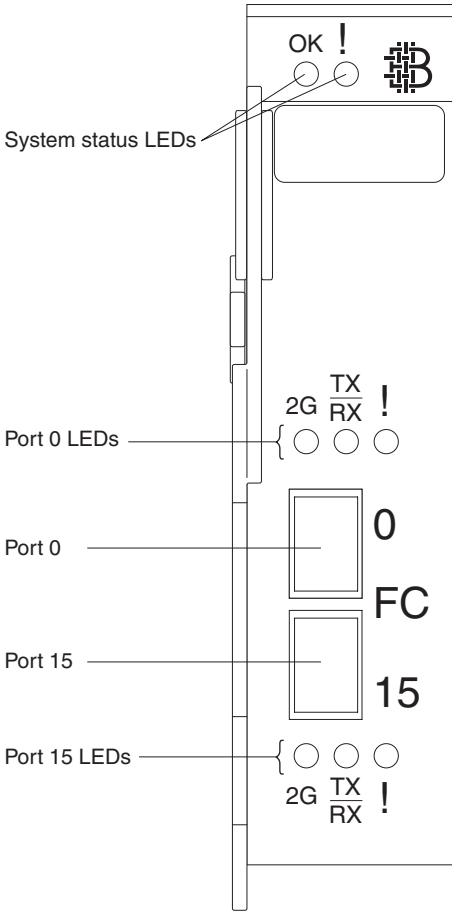

Figure 8. Fibre Channel switch-module information panel
The switch-module information panel contains LEDs and two Fibre Channel ports, as shown in Figure 8 on page 28.
- Two external Fibre Channel connectors to connect Fibre Channel devices, such as disk subsystems, tape drives, and other servers; and SAN devices, such as Fibre Channel switches, extenders, and gateways. These connectors are identified as port 0 and port 15 in the switch configuration menus and are labeled 0 and 15 (from top to bottom) on the switch module, as shown in Figure 8.